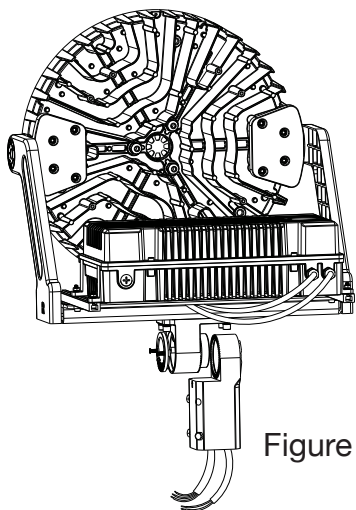

Figure 10
1. Remove the bracket mounting screws on the fixture and run the wires through the bracket. (Fig. 10)